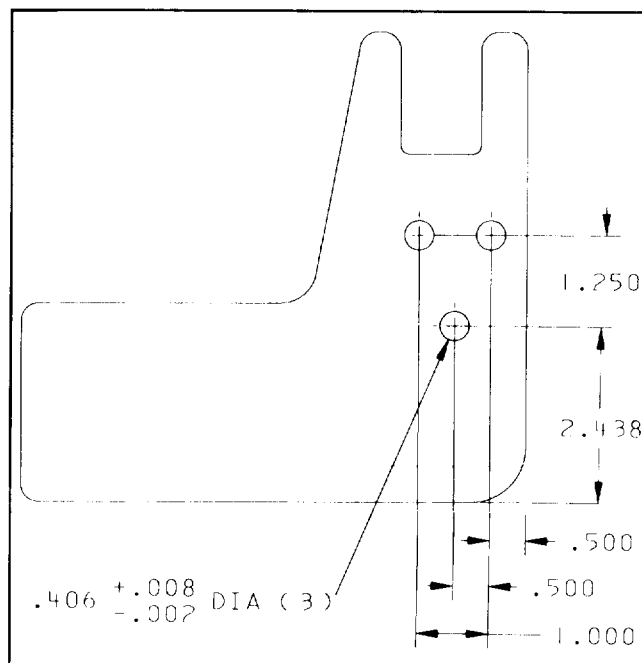

Figure 3
Note: If rear cradle mounting holes are not in lift arms, use the dimensions shown in Figure 3, to locate, mark and drill the (3) .406" dia. holes required in each lift arm.